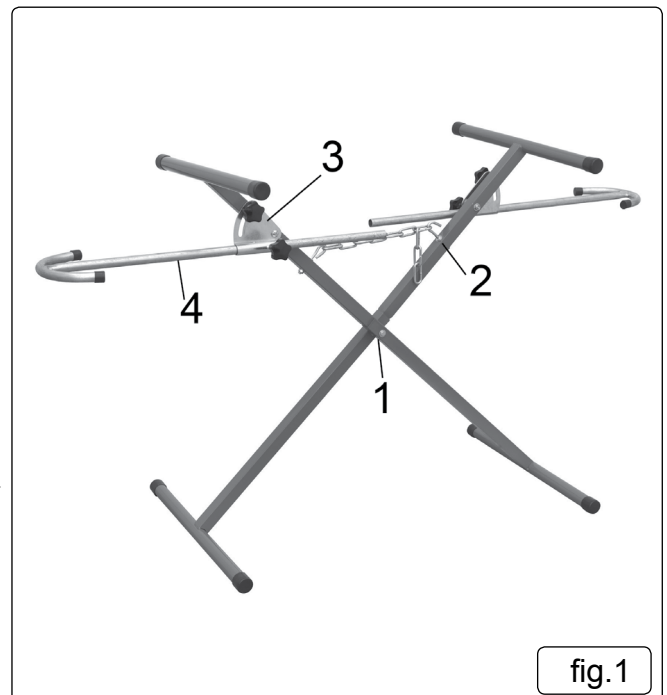

fig.1
- 4.3. Ensure the holes in frame are in the correct position fig.1
- 4.5. Bolt the angle adjustment plates fig1.3 in place with the nuts/bolts and the knobs as shown in fig.1.